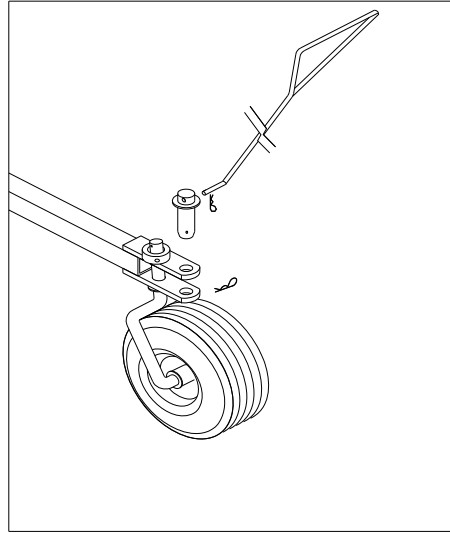

Fig. 11
10. For manual towing, attach tow handle (43) through the upper hole in hitch pin (27) and secure with hairpin cotter. **Fig. 11**